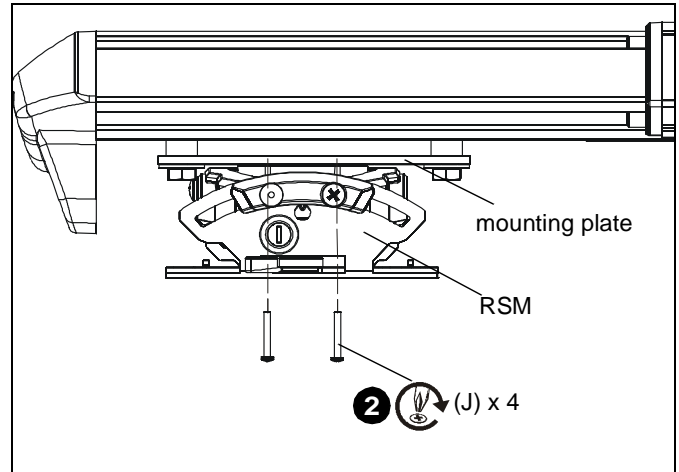

Figure 17
2. Install four #10-24 x 1-3/8" Phillips pan machine screws (J) through RSM holes and into projector mounting plate. (See Figure 17)